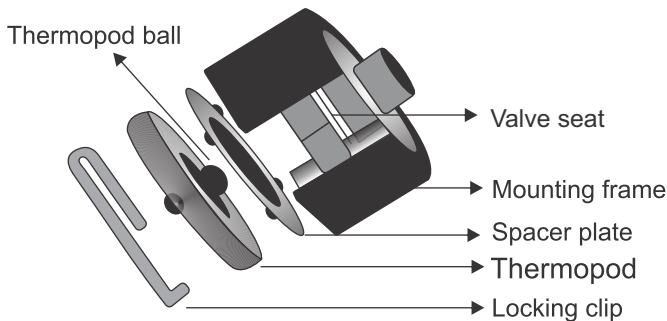

Figure10: Maintaining the air vent assembly
7.6 Inspection and maintenance of air vent assembly : (Refer to Figure 10)
2. Fit new gasket between mounting frame and body of the trap. (not visible in the figure 10), Valve seat and mounting frame.